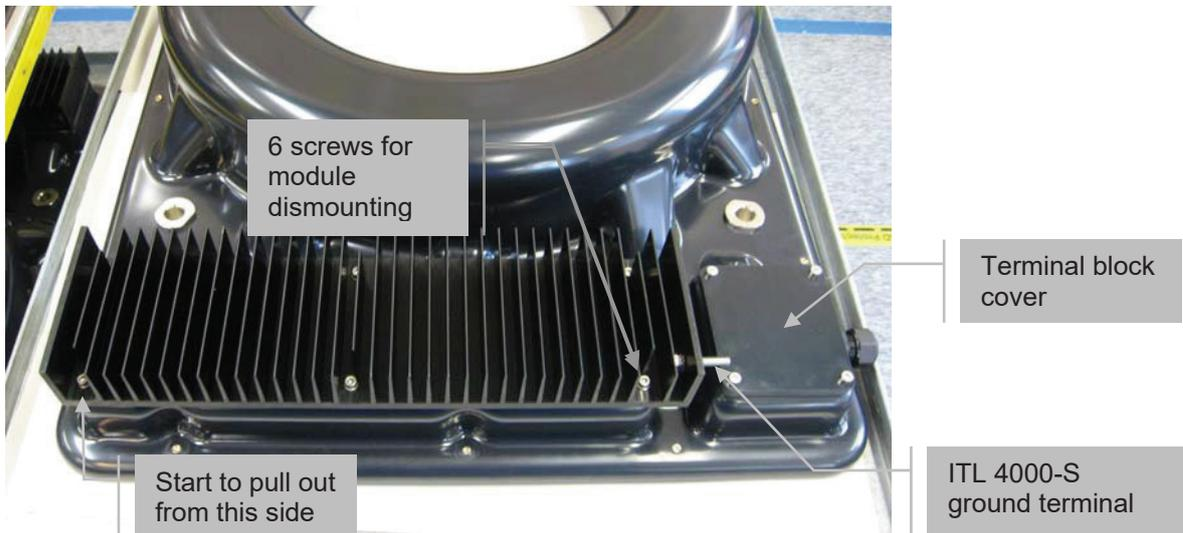

Figure 8: External view of ITL 4000-S
Remove the 4 screws that hold the small cover near the heatsink (see figure 8). The tightening torque for these 4 screws is 1.3 N·m. The torque for the cable gland is 2.5 N·m. Cable gland is foreseen for a cable diameter 5.5 to 12 mm. Connection wires to the terminal block shall be from 0.2 mm² to max. 4 mm² (AWG24 to AWG12).
The heatsink and the measuring head are internally connected to the ground terminal (threaded stud) which is accessible on the heatsink side (see figure 8); it should be connected to the ITL 4000-S local ground.
- o Remove the 6 screws that hold the heatsink (see figure 8).